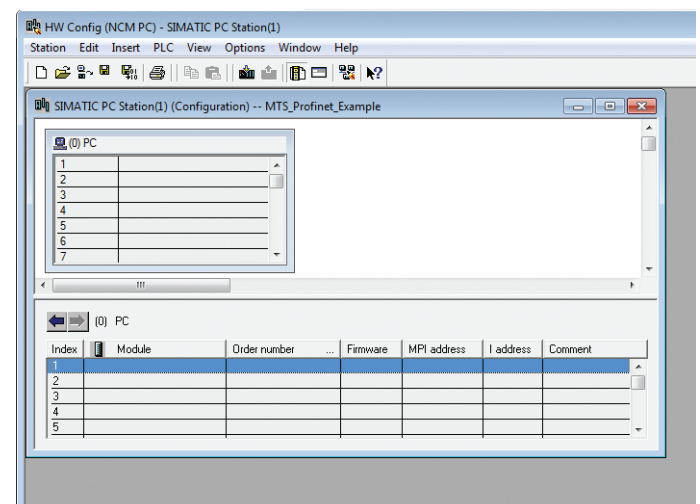

Fig. 28: Module HW Config (source: Siemens)
4. Double-click “Configuration” with the “Station” selected to open the window “Module HW Config” to determine the network and sensor configuration (Fig. 28).